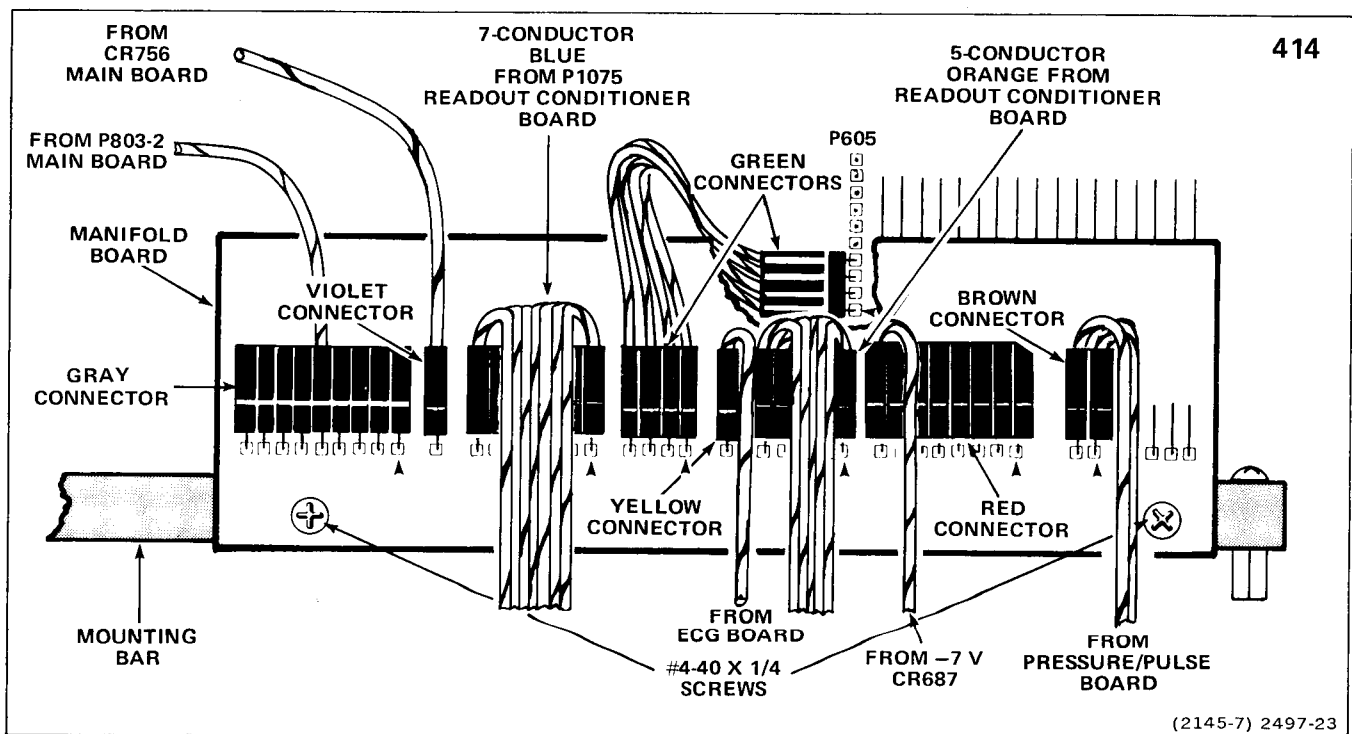

Figure 1-13. Installing Manifold board and connecting cables in Standard 414 Monitor.
9. Connect 4-wire cable (with green connector) to P605, install Manifold board and connect remaining cables. See Figure 1-13.